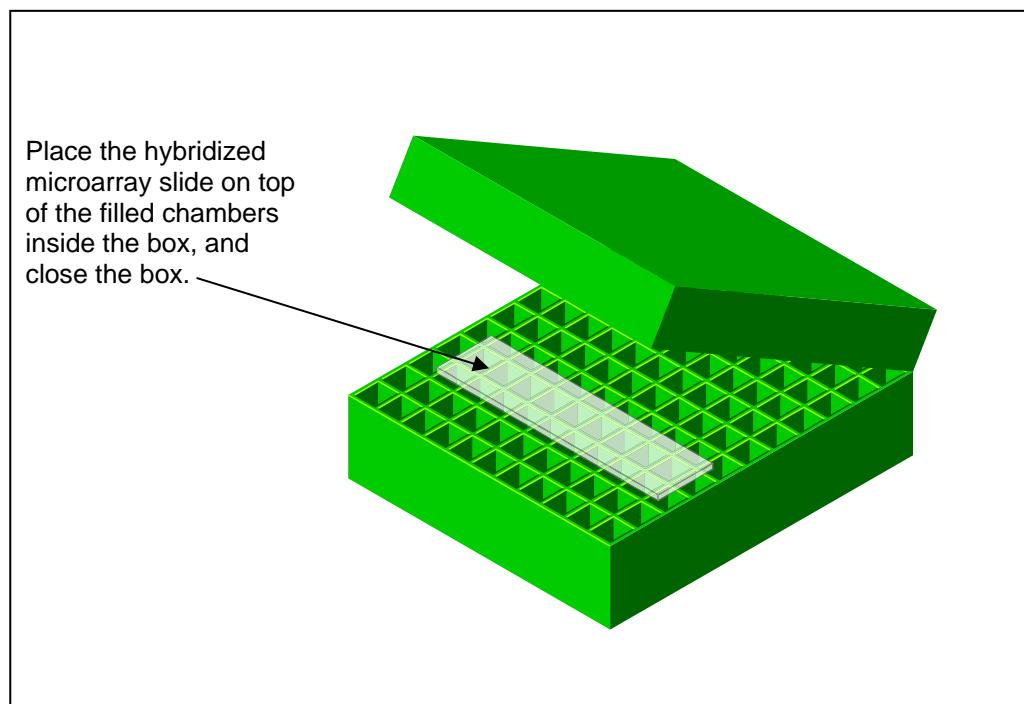

Figure 2: Step 4B → Glass Slide Inside Chamber Box²
- 10) Place the entire labeled target plus the microarray set-up into a closable, chambered box* that is humidified by 2X SSC buffer in the 37°C oven for 14 to 16 hours. A sealed chamber ensures that the appropriate humidity level is maintained during incubation. (See Figure 2).
Figure 2, below, provides an illustration of Step 4C, where the hybridization protocol is completed using the glass cover slide method, and specifically, the miRNA OneArray™ Microarray is placed into the chambered box.